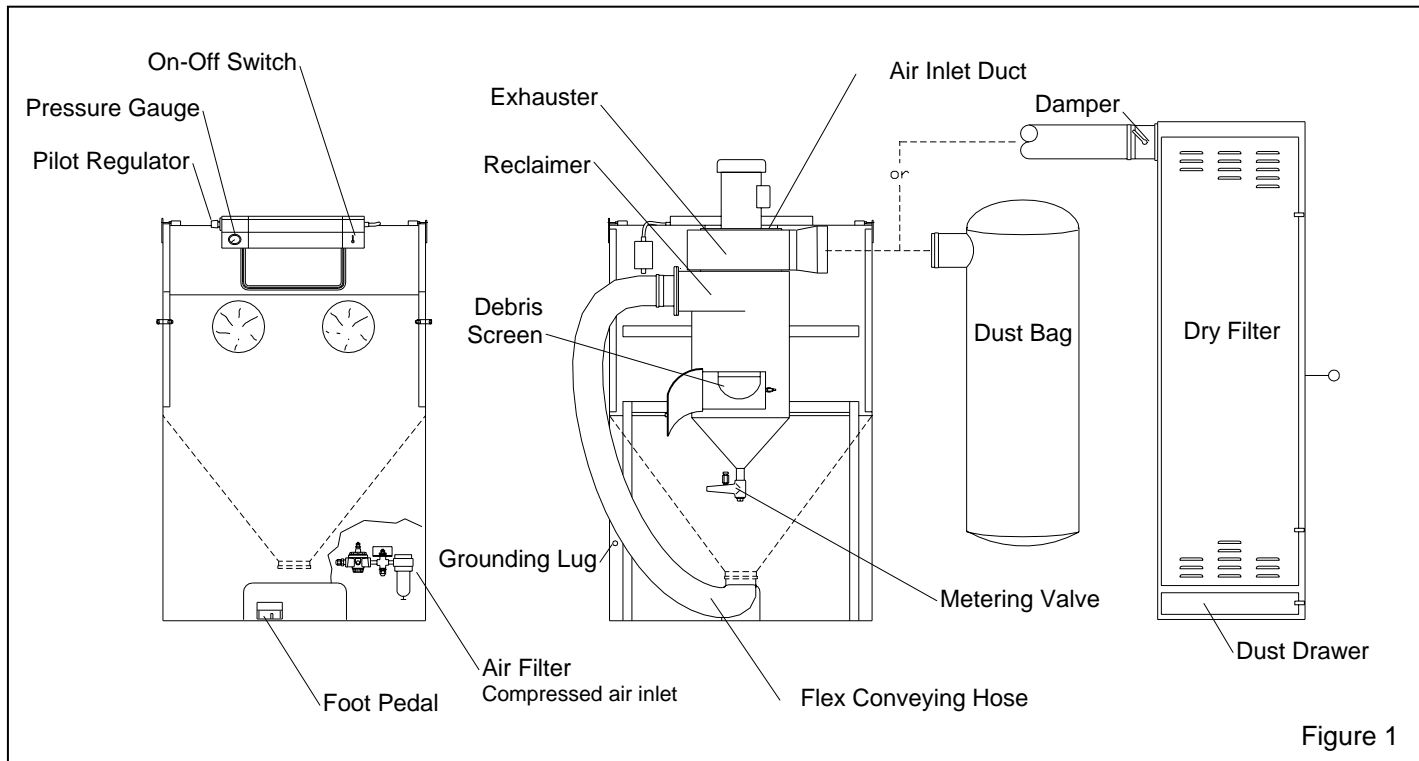

Figure 1
1.3.1 See Figure 1 for arrangement of components. INEX blast cabinets enclose the blasting environment to provide efficient blast cleaning while maintaining a clean surrounding work area. Production rates are influenced by size of nozzle, compressor output, working pressure, type and size of media, angle and distance of the nozzle from the blast surface. INEX cabinets consist of three major components:
2.1.1 See Figure 1 for the general arrangement. Place all components in a convenient location where compressed air and electrical services are available. The cabinet location must comply with OSHA and local safety codes. Allow for full access to all doors and service areas, and for efficient handling of large parts. Provide enough clearance in front of the dust collector to remove the dust drawer without tipping. Determine the best location, and position all units before final assembly.